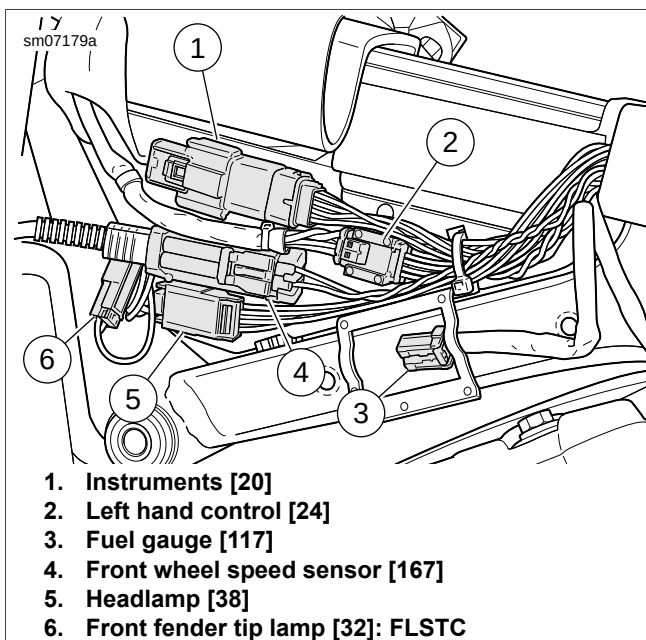

Figure 7-114. Under Fuel Tank Left Side
3. See Figure 7-114. Disconnect left hand control connector (2).
8. See Figure 7-114. Connect left hand control connector (2).